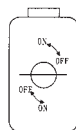

Fig.6
3.Installation of smoke channel type water heater batteries (Fig.6)